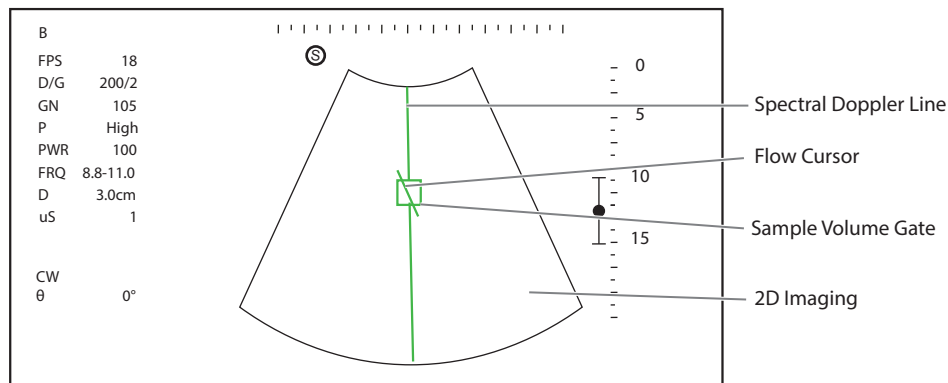

Figure 6-19 Pre-activated B+CW-Mode 1 Imaging Screen
2. Press the **CW** key on the control panel to enter the pre-activated B+CW mode 1. The basic screen is shown in Figure 6-19.